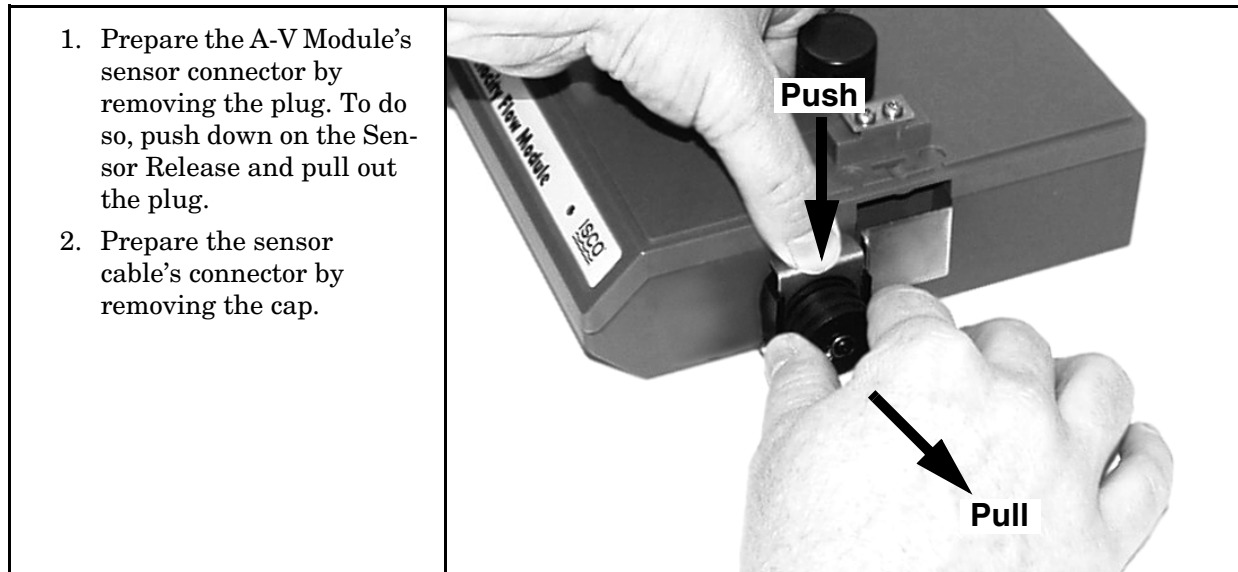

Figure 1-9 Flow Module - Preparing the Probe Connectors
1.2.4 Connecting the Sensor To attach the Area Velocity Sensor to the 2150 Flow Module, follow steps in Figures 1-9 and 1-10.